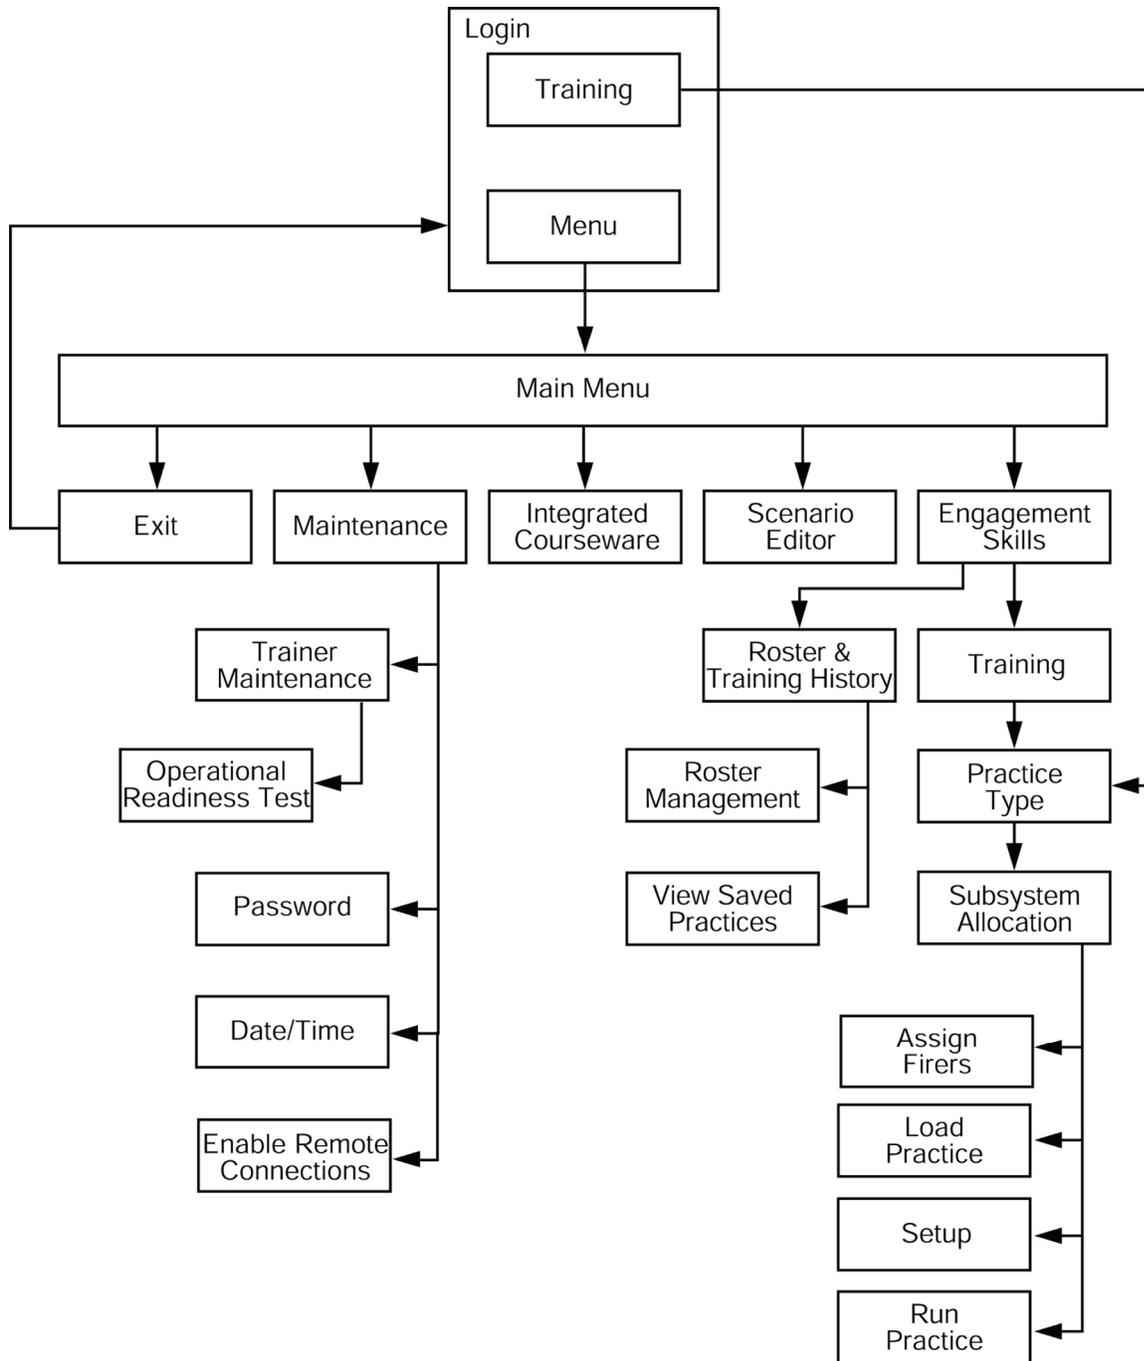

Figure A-19. System block diagram.
n. **EST 2000 System Block Diagram.** This navigation diagram (Figure A-19) provides a quick view of how the operator navigates through the instructor/operator (I/O) station.